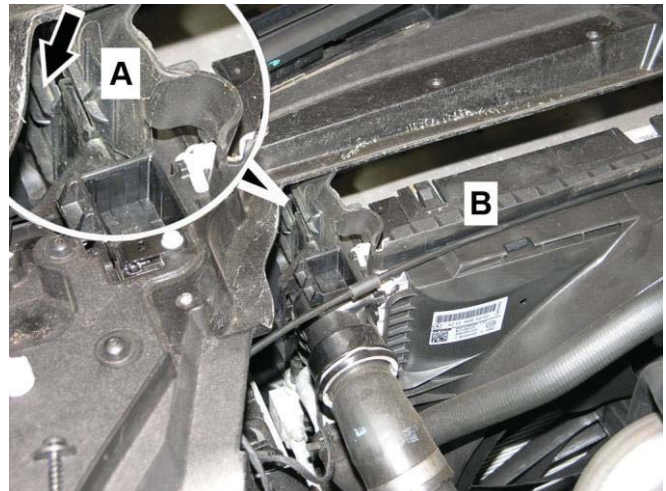

Figure 5
13. Open clip (arrow, Figure 5) on top of radiator side shroud (A) and separate side shroud (A) from radiator assembly (B).